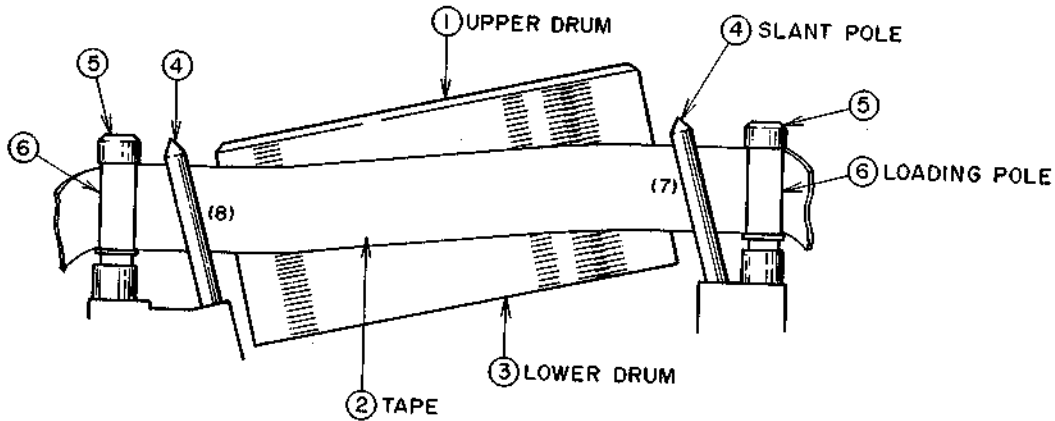
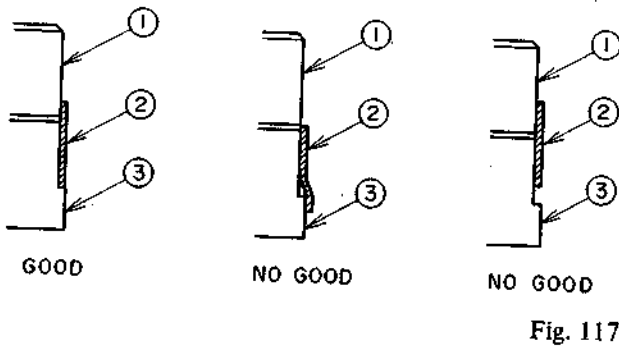
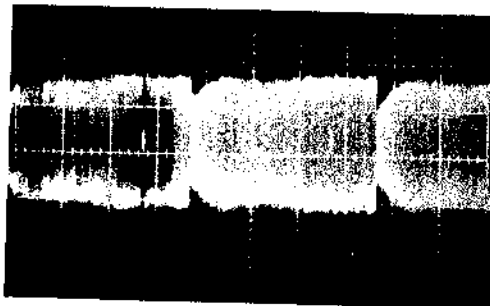

Fig. 116
Fig. 117
Fig. 119
- 4) Seeing to it that the oscilloscope shows such a waveform as shown in Fig. 119 and also watching the point (7) of Fig. 116, adjust the height of the guide roller (R) so that the tape runs without curling as shown in Fig. 117 (a).
- 5) Similarly, adjust the height of the guide roller (L) watching the waveform on the oscilloscope and the point (8) of Fig. 116.